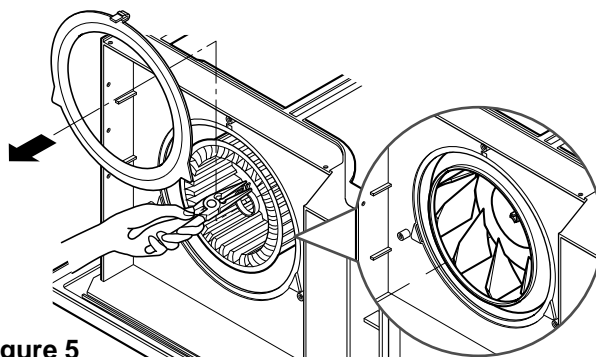

Figure 5
5. Remove the clamp which secures the blower with plier. (See figure 5)